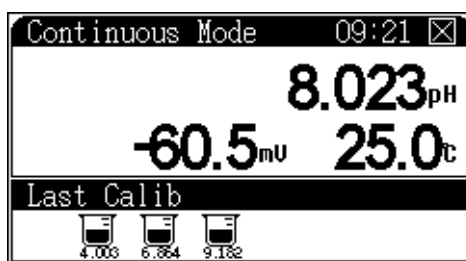

Figure 20 Enter continuous mode
- 4 Press **[Measure]** to start taking a measurement according to the selected mode. See Figure 20. The upper area of the screen shows the current measuring mode and system time. The central area of the screen shows pH, potential and temperature.